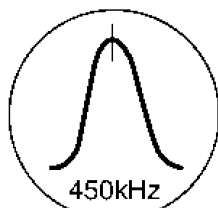

Fig. 6
4. Adjust Z2602 so that the output frequency is maximized in Fig. 6.